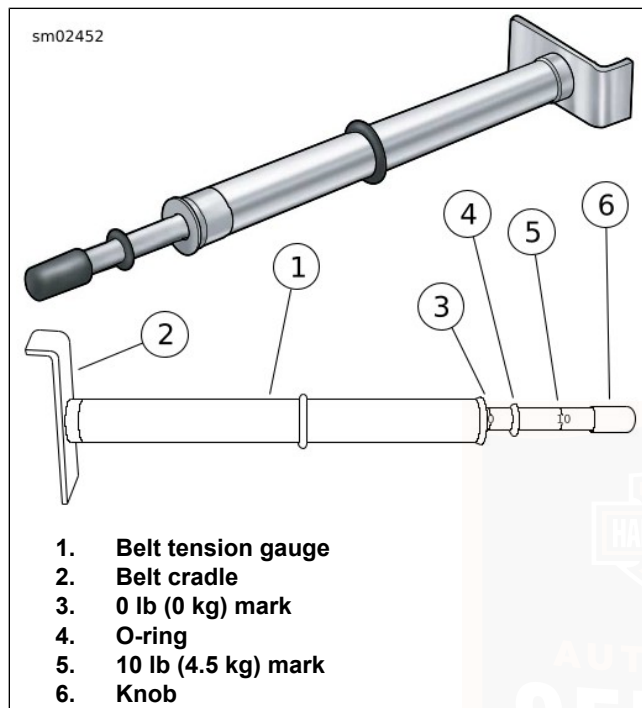
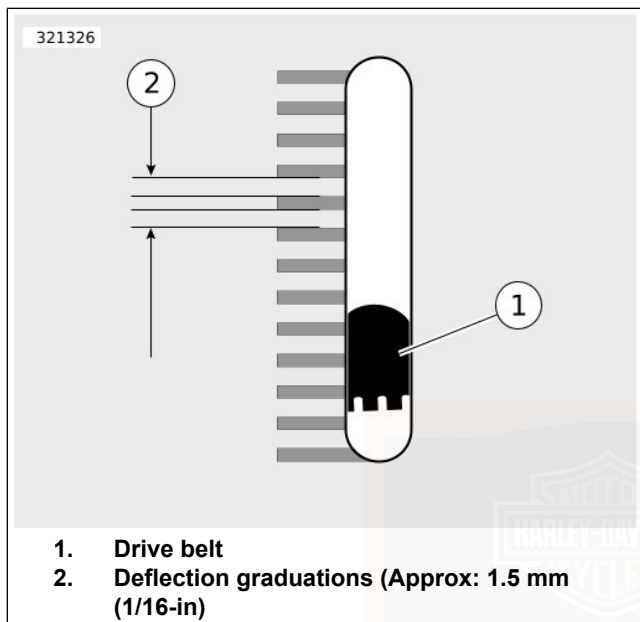

Figure 59. Belt Tension Gauge
Figure 61. Belt Deflection Window
3. See Figure 59. Measure belt deflection using BELT TENSION GAUGE (PART NUMBER: HD-35381-A):
- a. Slide O-ring (4) to zero mark (3).
- b. **Models equipped with belt deflection window:** Fit belt cradle (2) against bottom of drive belt in line with belt deflection window.
- c. **All other models:** Fit belt cradle (2) against bottom of drive belt halfway between drive pulleys.
- d. Press upward on knob (6) until O-ring slides down to 4.54 kg (10 lb) mark (5) and hold steady.
- a. **Models equipped with belt deflection window:** See Figure 61. Measure belt deflection as viewed through belt deflection viewing window while holding gauge steady. Each deflection graduation is approximately 1.6 mm (1/16 in).